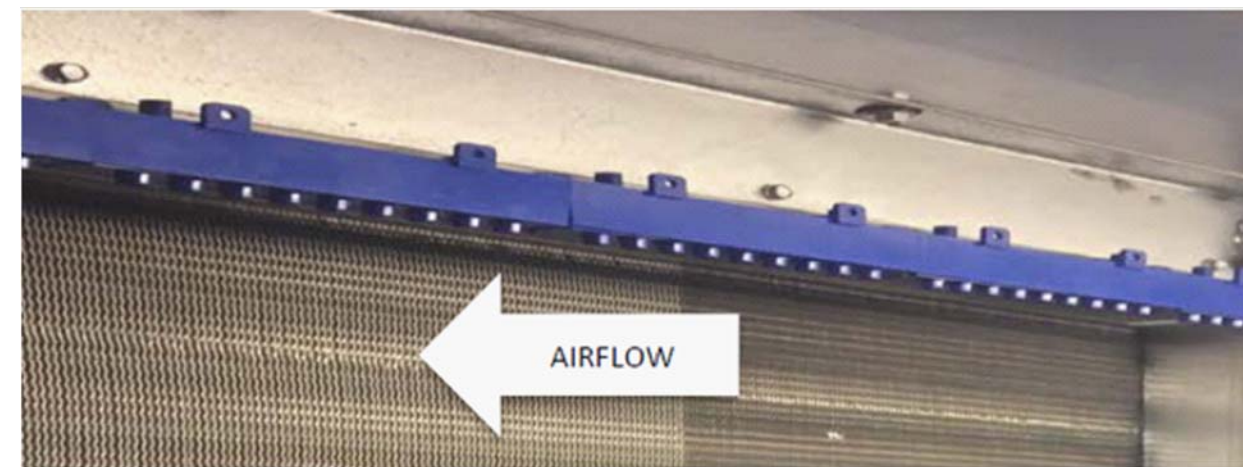

FIGURE 1: BI DEVICE MOUNTING LOCATION
1. PROVIDE "GLOBAL PLASMA SOLUTIONS" MODEL "GPS-IMOD" BIPOLAR IONIZATION GENERATOR FOR AHU-1, 2, 6, 7 AND 8, RAHU-3 AND 4, AND ERU-1. IMOD SHALL BE MOUNTED UPSTREAM OF THE COOLING COIL AT THE TOP OF THE FINNED SURFACE AREA OF THE COIL. REFER TO FIGURE 1 FOR EXAMPLE. PROVIDE SUFFICIENT QUANTITY OF 6" IMOD SECTIONS TO MATCH THE WIDTH OF THE COOLING COIL. VERIFY THAT ALL MODULAR SECTIONS OF THE IMOD ARE ATTACHED SNUGLY TOGETHER IN ACCORDANCE WITH FIGURE 2.